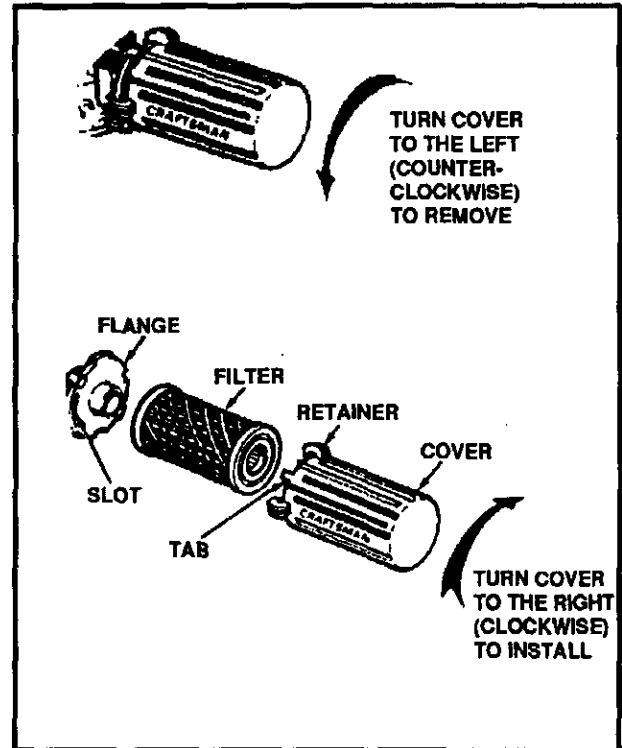

FIG. 11
- Turn the cover (See Fig. 11) to the left (counterclockwise) and remove the cover and the air filter from the flange.
- Push the cover firmly against the flange and turn it to the right (clockwise) as far as it will go (See Fig. 11). Be sure the retainers are locked around the flange.